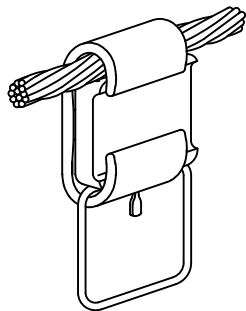

FIGURE 2
- *** WHEN TAPPING LINE CONDUCTOR WITH A HOT LINE CLAMP, USE WEDGE CONNECTOR/STIRRUP COMBINATION AS SHOWN IN FIGURE 2.